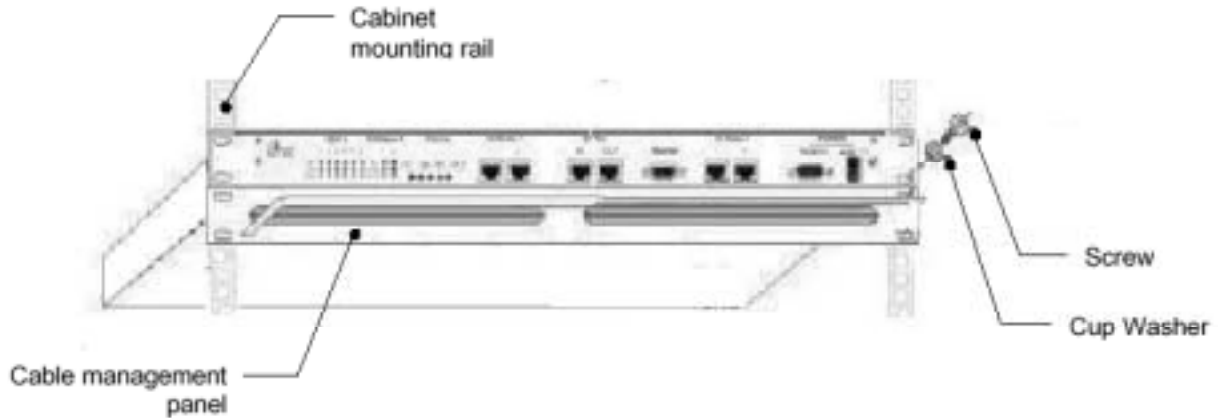

Figure 5-2: BSDU and cable management panel mounting method
4. Insert the M5-mounting screws, with plastic washers, in the BSDU mounting bracket screw holes, on each side, as shown Figure 5-2. In this way, the chassis is supported until you tighten the chassis screws.